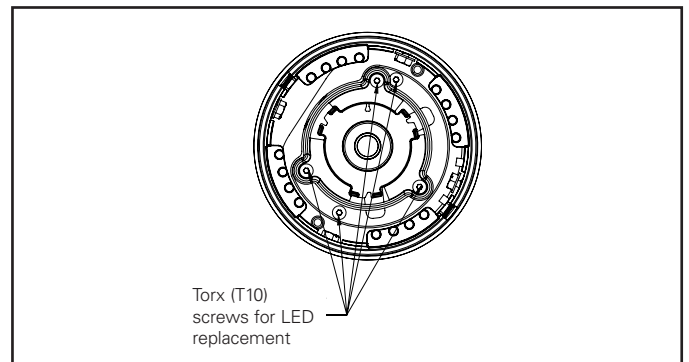

Figure 18.
4. Locate the 5 Torx head screws on heat sink (Figure 18).